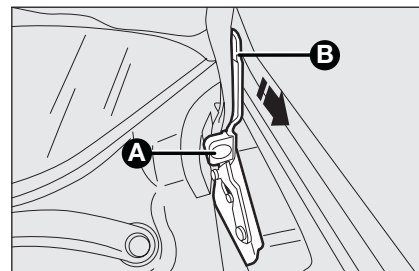

fig. 88
- ☐ lift the hood with one hand and with the other pull toward you the device **A**-fig. 88 and then lower the lever **B**;